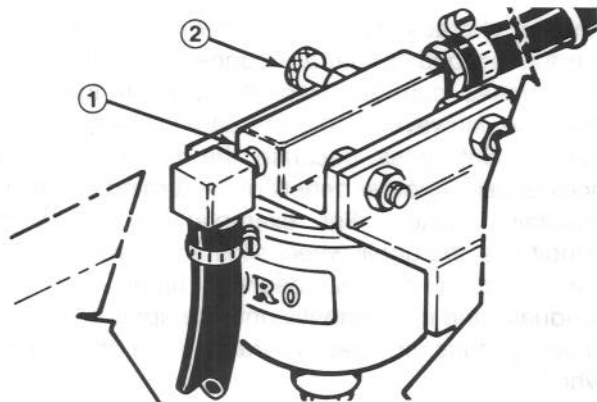

Figure 30
2. Loosen air bleed screw on top of fuel filter/water separator (Fig. 30).